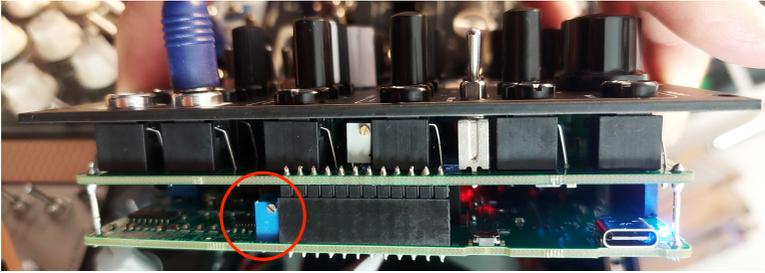

Figure 6.3: The **Y Gain** trimmer is the one *directly under the front-plate* on the right side of the module.
To balance the X and Y channels in their overall volume it is necessary to adjust the **Y Gain** trimmer on the right side of the upper PCB. See Figure 6.3.
5. With a small slotted screwdriver, turn the **Y Gain** trimmer to adjust the decay of the red line. (See Figure 6.3) Turning CCW increases the decay, turning CW decreases the decay.